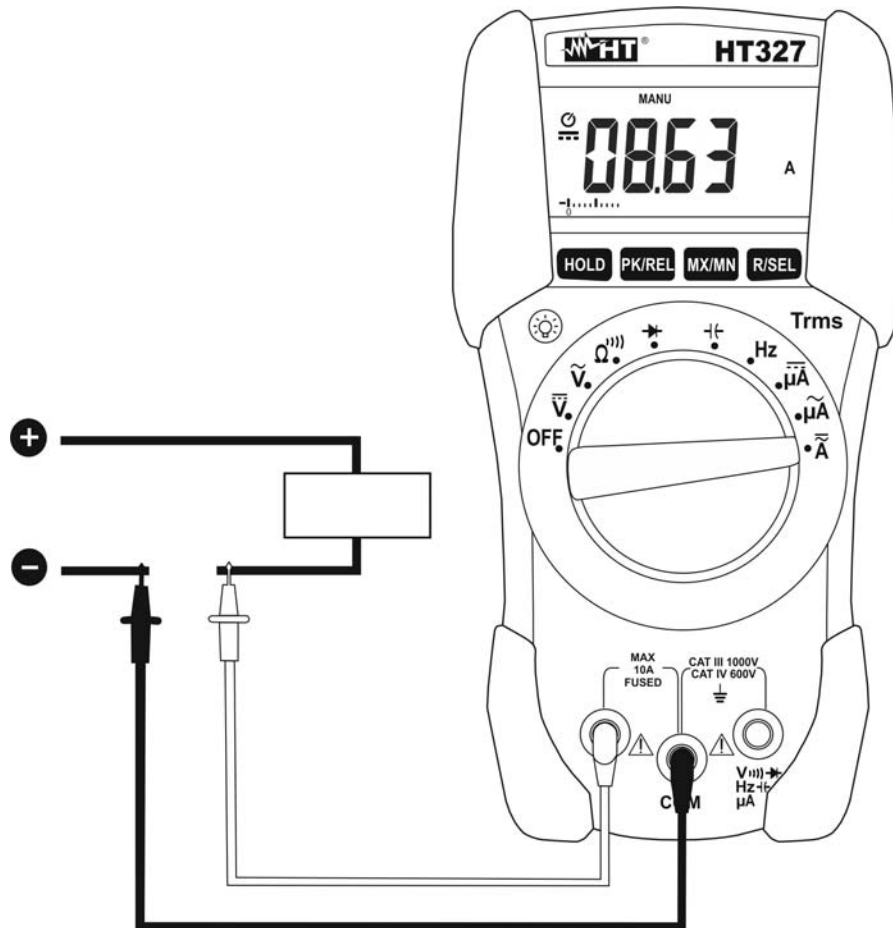

Fig. 4: Using the instrument for DC Current measurement
4. Connect the red and the black plugs in series with the circuit whose current is to be measured respecting the polarities (see Fig. 4)
8. The symbol "-" on the instrument display indicates that current has opposite direction with regard to the connection of Fig. 4